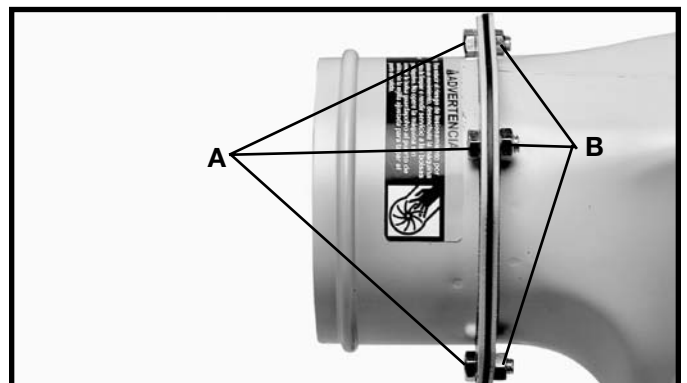

Fig. 6
2. Insert a 5/16-18x5/8" hex head bolt thru the exhaust flange, exhaust flange gasket and the base unit as shown in Fig. 6.
3. Thread a 5/16-18 hex nut (B) onto the 5/16-18x5/8" hex head bolt (A) Fig. 6 and tighten securely.